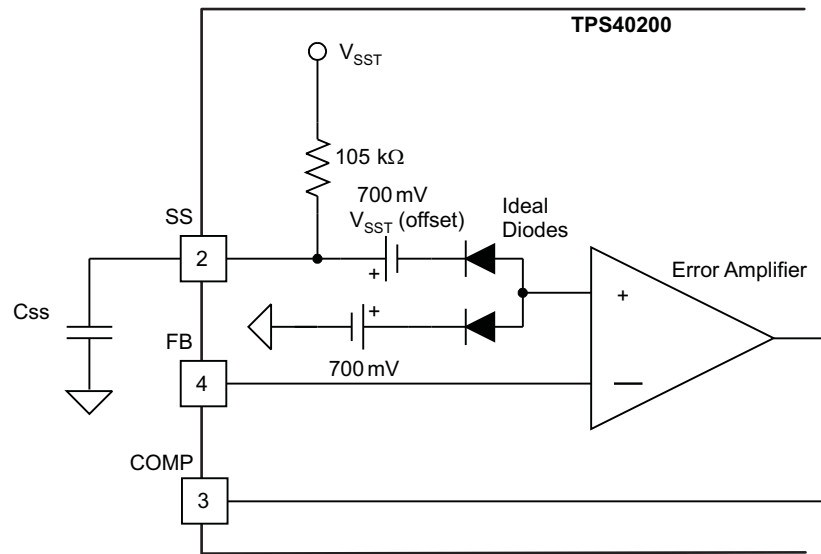

Figure 30. Soft-Start Circuit
An external capacitor, C_{SS} , connected from the soft-start (SS) pin to ground controls the TPS40200 soft-start interval. An internal charging resistor connected to VDD produces a rising reference voltage, which is connected through a 700-mV offset to the reference input of the TPS40200 error amplifier. When the soft-start capacitor voltage (V_{CSS}) is below 150 mV, there is no switching activity. When V_{CSS} rises above the 700-mV offset, the error amplifier starts to follow $V_{SST} - 700$ mV, and uses this rising voltage as a reference. When V_{CSS} reaches 1.4 V, the internal reference takes over, and further increases have no effect. An advantage of initiating a slow start in this fashion is that the controller cannot overshoot because its output follows a scaled version of the controller's reference voltage. A conceptual drawing of the circuit that produces these results is shown in Figure 30. A consequence of the 700-mV offset is that the controller does not start switching until the V_{CSS} has charged up to 700 mV. The output remains at 0 V during the resulting delay. When V_{CSS} exceeds the 700-mV offset, the TPS40200 output follows the soft-start time constant. Once above 1.4 V, the 700-mV internal reference takes over, and normal operation begins.